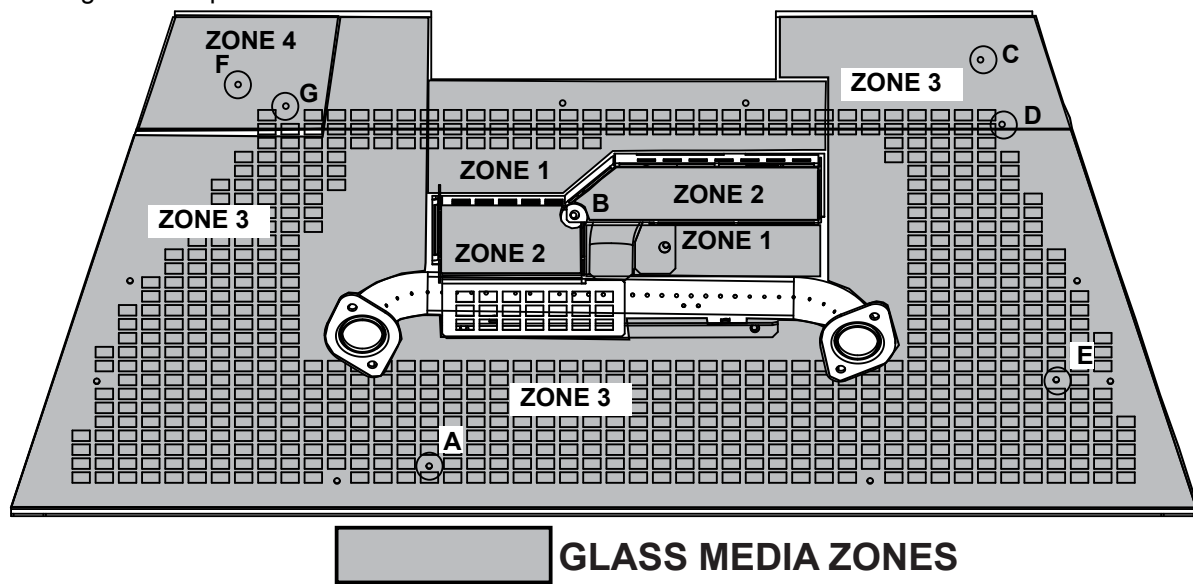

Figure 18 Zone 4 Media Installed
**MEDIA:** Place media in Zone 4 as indicated in Figure 18.